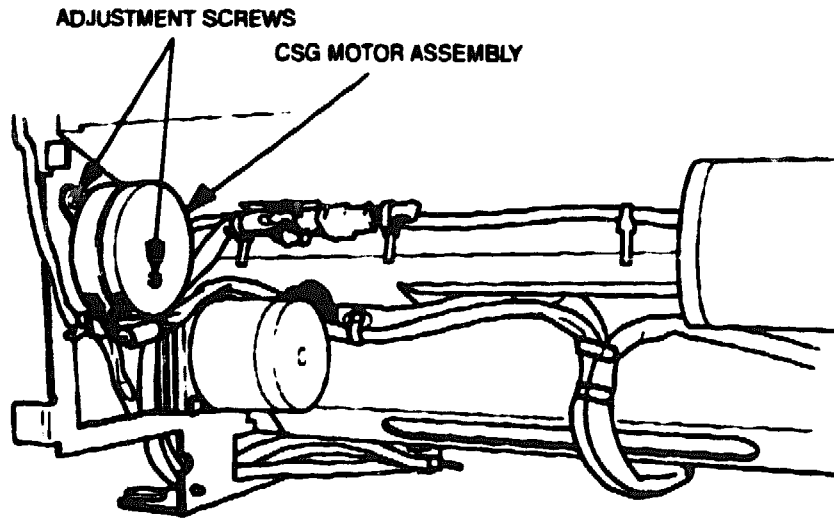

Figure 4-18 CSG Motor Position Adjustment
4. Loosen the CSG motor screws (see Figure 4-18).